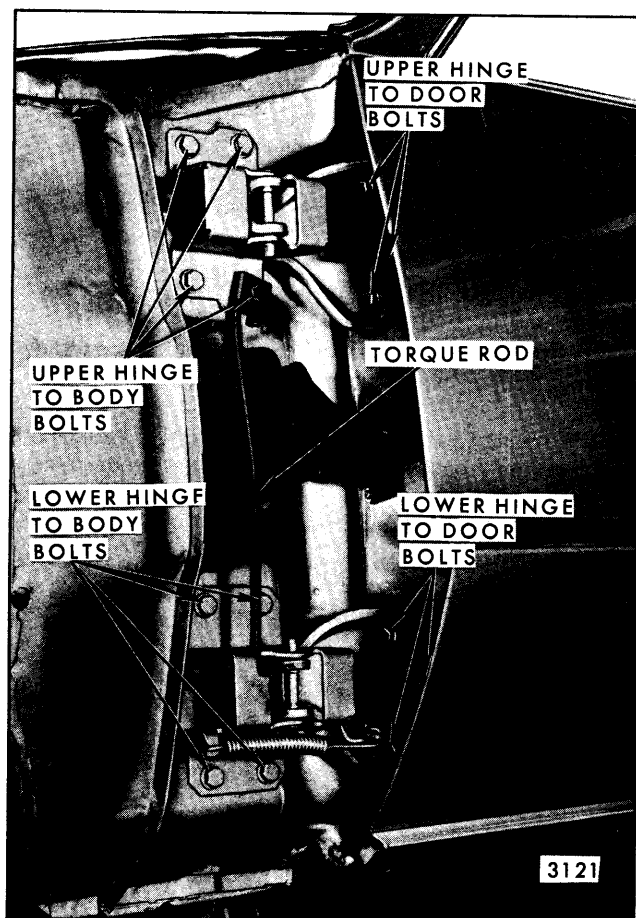

Fig. 6-64—Front Door Hinge and Torque Rod Installation - "E" Styles
**NOTE:** All "E" body doors are equipped with a torque rod to ease door opening effort (Figure 6-64). This torque rod is secured under the upper hinge lower rearward bolt, body side, on right and left front doors. The lower end of rod is retained by the lower hinge box. Removal and installation of this rod usually requires loosening of front fenders. Remove rod with door fully opened, when tension on rod is relieved.